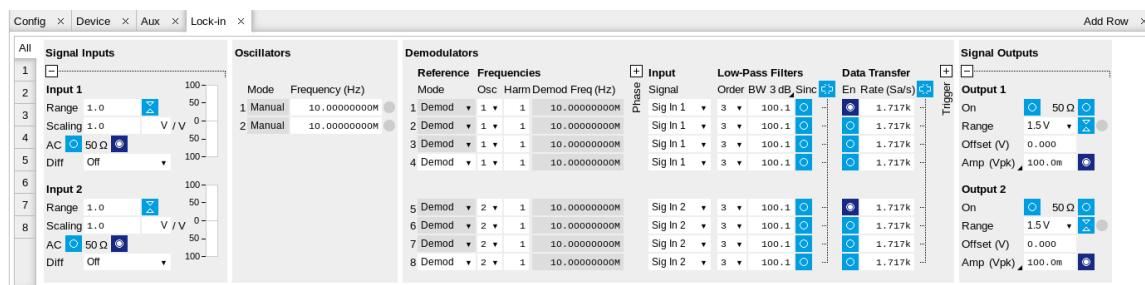

Figure 4.7. LabOne User Interface Lock-in tab - Parameter table (All)
The parameter table (see Figure 4.7) consists of 4 vertical sections: Signal Inputs, Oscillators, Demodulators and Signal Outputs. The Demodulator section is horizontally divided into two identical groups. The upper group is tied to oscillator 1 and the lower group is tied to oscillator 2. That means demodulators 1 to 4 (5 to 8) can demodulate input signals at the frequency of oscillator 1 (2) and higher multiples. Demodulators 4 and 8 can be used for external referencing. Every demodulator can be connected to any of the possible inputs and outputs. Signal Input 1 and 2 are identical in all aspects, the same holds for the Signal Outputs 1 and 2.